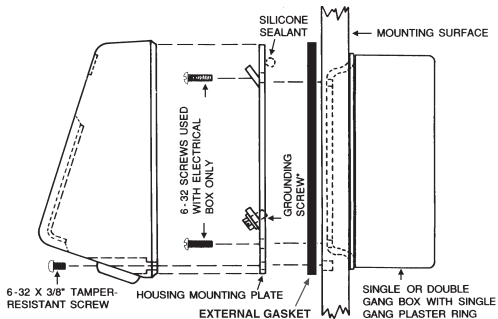

FIGURE 11
**AN EARTH GROUND IS REQUIRED.** Connect the green screw on the mounting plate to a good earth ground (AC Power Ground or a 10 foot copper ground stake) using a 16AWG solid copper wire. Failure to do so may result in improper operation or damage to the unit. (See Figures 11 - 21). Flush Mount and Metal Housing models also have a green ground wire, which must be attached to the green screw on the mounting plate.
### **SURFACE MOUNT TO SINGLE GANG ELECTRICAL BOX (See Fig. 11)**